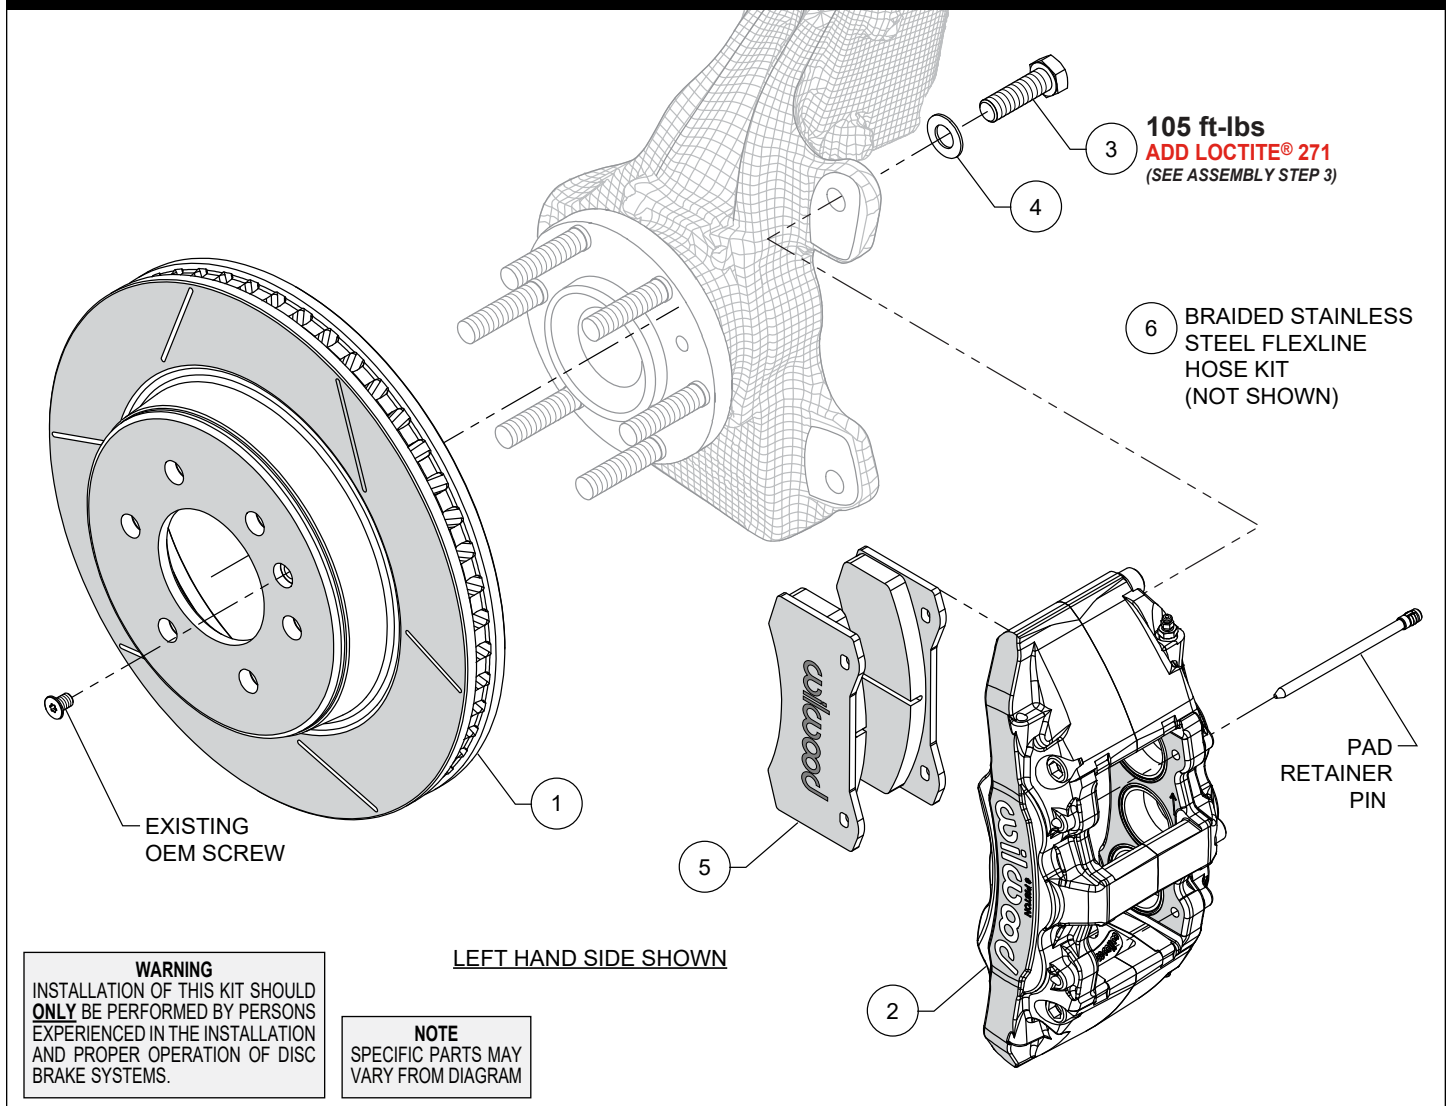

Figure 1. Typical Installation Configuration
NOTE: Numbers in parenthesis refer to the parts list and Figure 1 on the preceding pages.
STEP 1 Slide the rotor (1) onto the hub. **NOTE:** The rotor must fit flush against the hub flange or excessive rotor run out may result. Install the existing OEM rotor locator screw to keep the rotor assembly in place while continuing with the installation, Figure 1 and Photo 1.
STEP 2 Remove the two pad retaining pins from the caliper (2), Figure 1. Insert the brake pads (5) into the caliper from the bottom, with the friction material facing the rotor, as shown in Photo 2. Secure the brake pads in place with the pad retaining pins, Photo 3 and Figure 1. **CAUTION:** Ensure pad retaining pins are completely engaged into caliper. It is recommended to use a small flat punch and hammer to tap the pins in until they are fully seated.
STEP 3 **NOTE:** This kit contains distinct right and left hand calipers that must be mounted in a specific direction, as described below. Ensure that the caliper is mounted so the largest pistons are at the rotor exit end of the caliper, in relation to the forward direction of the rotor. Mount the caliper (2) onto the OEM caliper mounting bosses of upright using bolts (3) and washers (4), as shown in Figure 1 and Photo 4. Apply red Loctite® 271 to bolt threads, and torque to value shown in Figure 1.
STEP 5 Attach brake line to caliper. **NOTE:** OEM rubber brake hoses generally cannot be adapted to Wilwood calipers. Install Wilwood's braided stainless steel flexline hose kit (6), p/n 220-17998, included with this kit. The caliper inlet fitting is a 1/8-27 NPT. Use the included steel adapter fitting at the caliper (use PTFE tape on the pipe threads of adapter fitting for proper sealing to caliper). Note the final orientation of the caliper inlet adapter fitting as shown in Photo 5. Mount the Wilwood brake line chassis adapter fitting into OEM bracket using the supplied retainer clip and attach the OEM hard line to new chassis adapter fitting. Attach flexline to other end of chassis adapter fitting and then to caliper fitting. Note routing of flexline as shown in Photo 5. **NOTE:** Secure any sensor wires away from rotating parts using zip-ties (not included with brake kit).